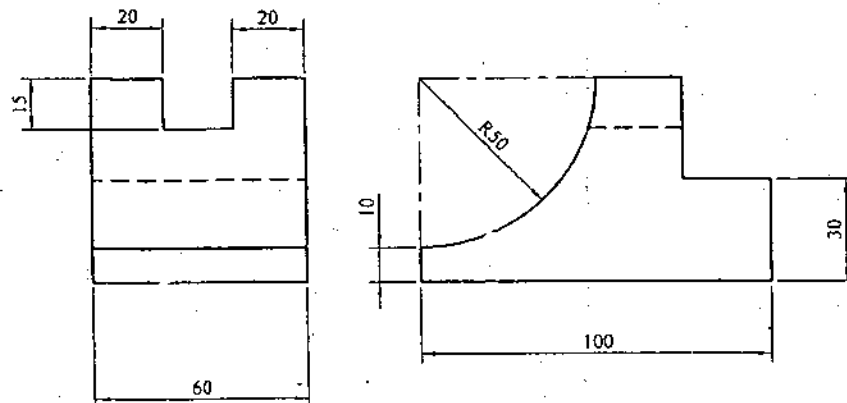

Figure 1
1. Orthographic views of an object are shown in Figure 1. Draw its isometric view. [10]
2. A solid cube having 50mm sides, is resting with its flat base on the ground plane. Draw its angular perspective view with its vertical faces equally inclined to the picture plane (PP) and the nearest vertical edge is touching the PP. The station point is 80mm above ground level, 40mm away from the PP and the central plane passes from the centre of the solid cube. [5]